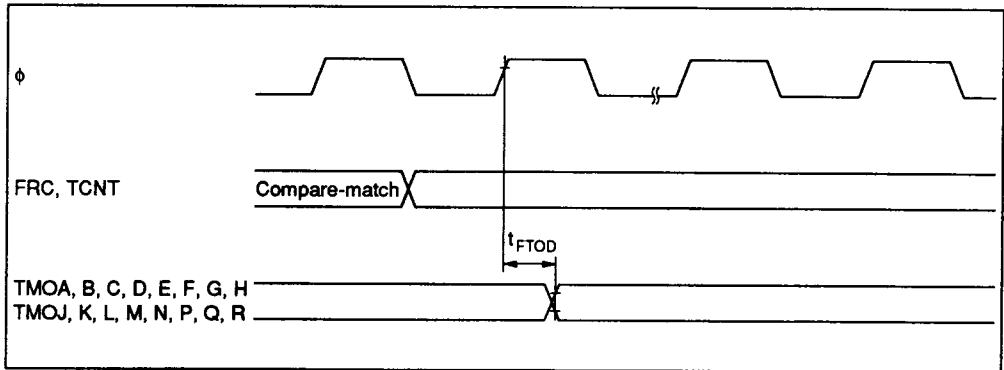

Figure 21-8 FNET/FRT Input/Output Timing
21.3.4 Timer Network (FNET) and 19-Bit Free-Running Timer (FRT) Timing	Figures 21-8 and 21-9